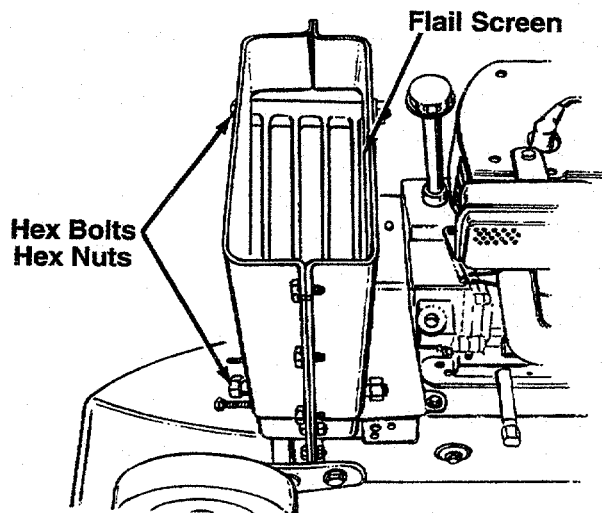

FIGURE 19.
- Remove the two hex bolts and hex nuts which extend through the housing. Lift the flail screen from inside the housing. See figure 19.
**NOTE:** Be certain to reassemble the flail screen with the curved side down as shown in figure 19.
- Remove the plastic belt cover on the front of the engine by removing two self-tapping screws. Refer to figure 19.